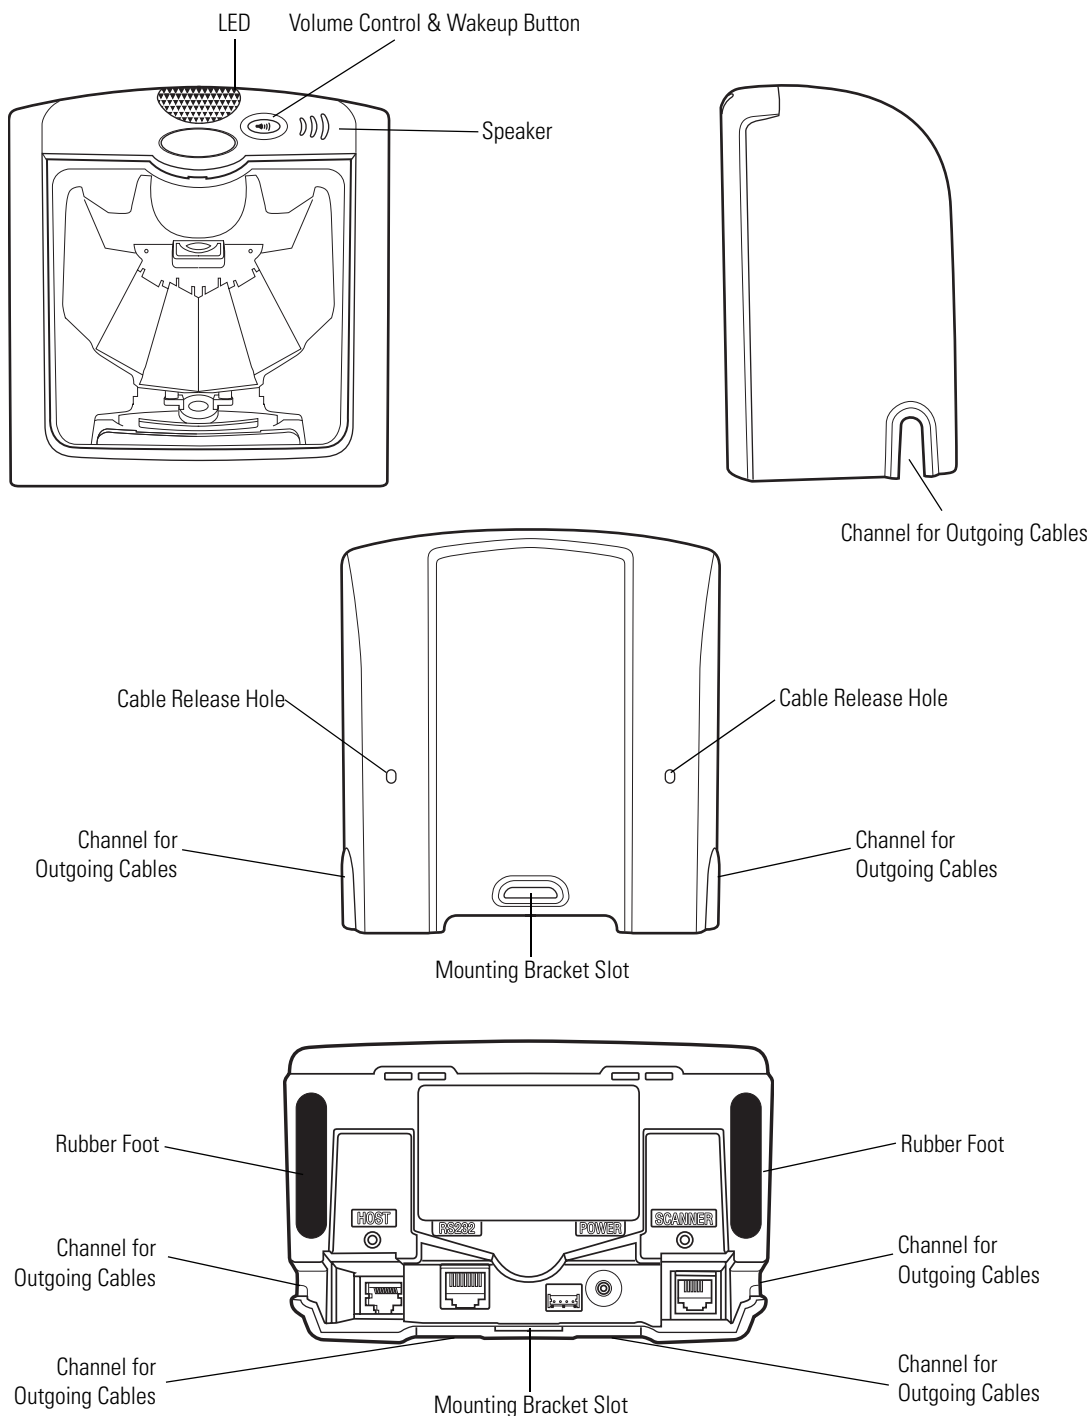
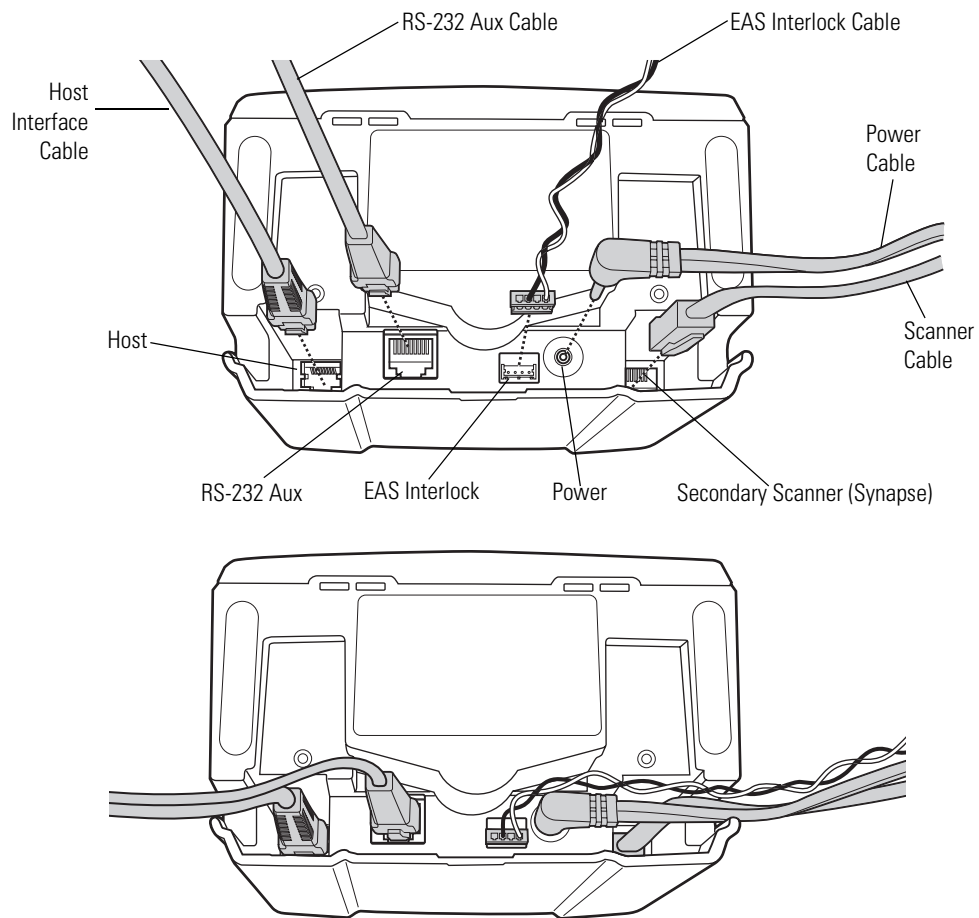
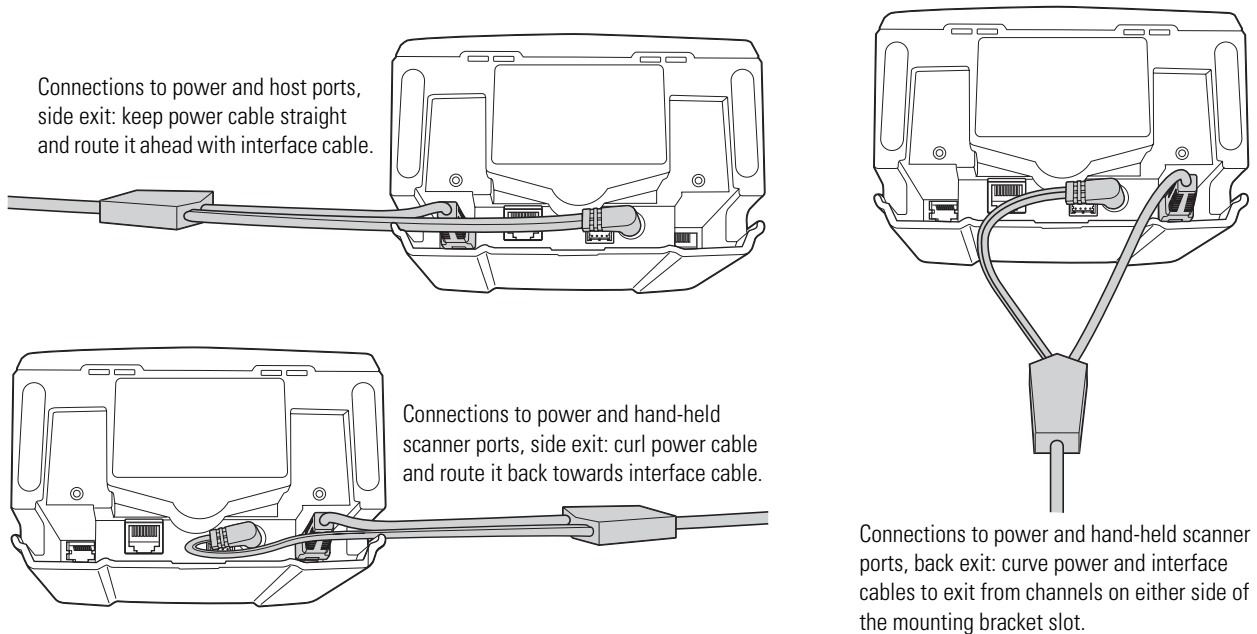

Figure 1-1. Symbol LS7708 Scanner Views
Figure 1-3. Scanner Connections
Figure 1-4. Cable Routing Options
Connect the cables in the following order (see Figure 1-3):
The scanner case has several channels to route the outgoing cables so that they are organized and don't hinder the scanner's placement (see Figure 1-1 and Figure 1-3). After placing the cable connectors in the appropriate scanner ports, route the cables through the nearest channel.
2. Route the cables according to the appropriate diagram in Figure 1-4.
1. Connect all interface and power cables to the scanner (see Figure 1-3 on page 1-7). Route the cables appropriately for the mounting and cable configuration (see Figure 1-4).